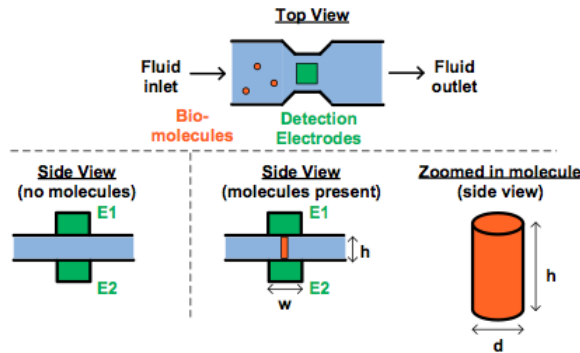

Figure 1: Bio-molecule detector.
As shown in Figure 1, the detector works by flowing a liquid that may or may not contain the biomolecules through a region in the device that has electrodes on the top and bottom of the liquid channel. The electrodes (E1/E2 in Figure 1) are chemically “functionalized” (using e.g. some appropriately designed antibodies), so that if the specific bio-molecule of interest is present in the fluid sample, one or more of the molecules will get physically trapped between the two electrodes (bottom right of Figure 1). After all of the fluid has been cleared out of the device (i.e., so that if there are bio-molecules present, there is only air in between the two electrodes E1/E2), we can then figure out whether or not one or more bio-molecules were trapped by measuring the capacitance between the two electrodes.
- (b) As shown in Figure 1, if each bio-molecule is a cylinder with diameter $d = 2\mu\text{m}$, height $h = 100\text{nm}$, and permittivity $\epsilon_b = 4\epsilon_0$, what would the capacitance between E1 and E2 be if only a single bio-molecule is trapped? Note that you can assume that the trapped molecule is exactly vertically oriented when it is trapped – i.e., the top and bottom faces of the molecule are both aligned with surfaces of the electrodes.